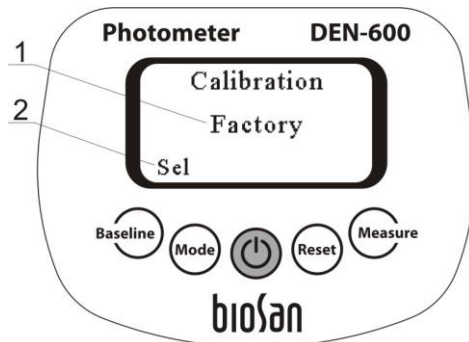

Figure 5. User and factory calibration selection
- 5.7.1. **Restoring to McF factory calibration settings (Figure 5).** Enter user calibration regime by pressing **Baseline** key 5 times in **McF** measurement mode, press **Mode** key 2 times, then select between User and Factory calibration settings by pressing Sel (**Baseline** key, fig. 5/2), to exit the menu press **Reset** key.